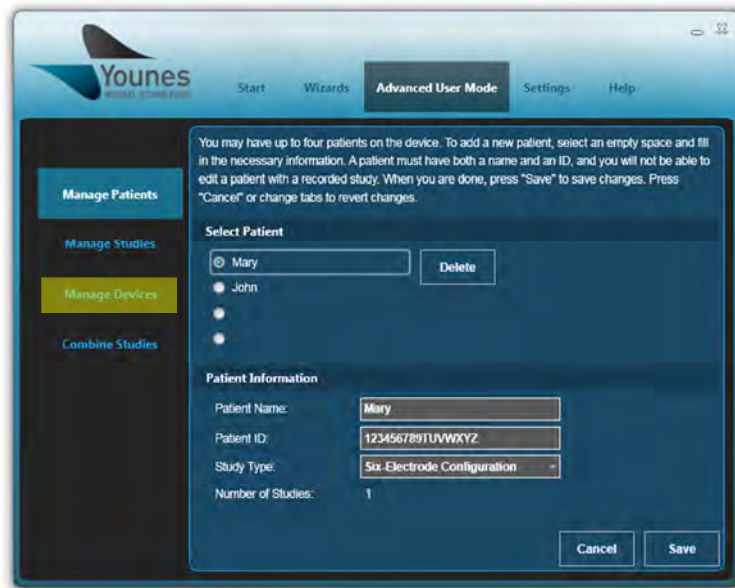

Figure 137 – Windows PC Prodigy Application Screen With “Manage Devices” Button Highlighted (Manage Patients)
- b. The second tool called “Manage Devices” erases everything from the device all at once. To access the “Manage Devices” tool, select the “Manage Devices” button highlighted in Figure 137.